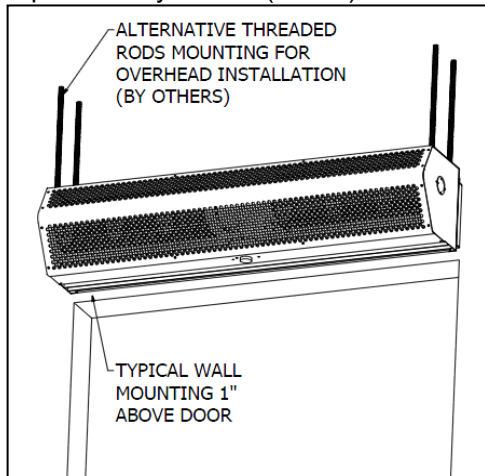

FIG. 3
5. Mount the product such that the discharge is 1" above the opening and all obstacles. (FIG. 3)
- Use four (4) threaded rods for overhead installation or four (4) threaded bolts for wall installation. All hardware is field provided by others. (FIG. 3)